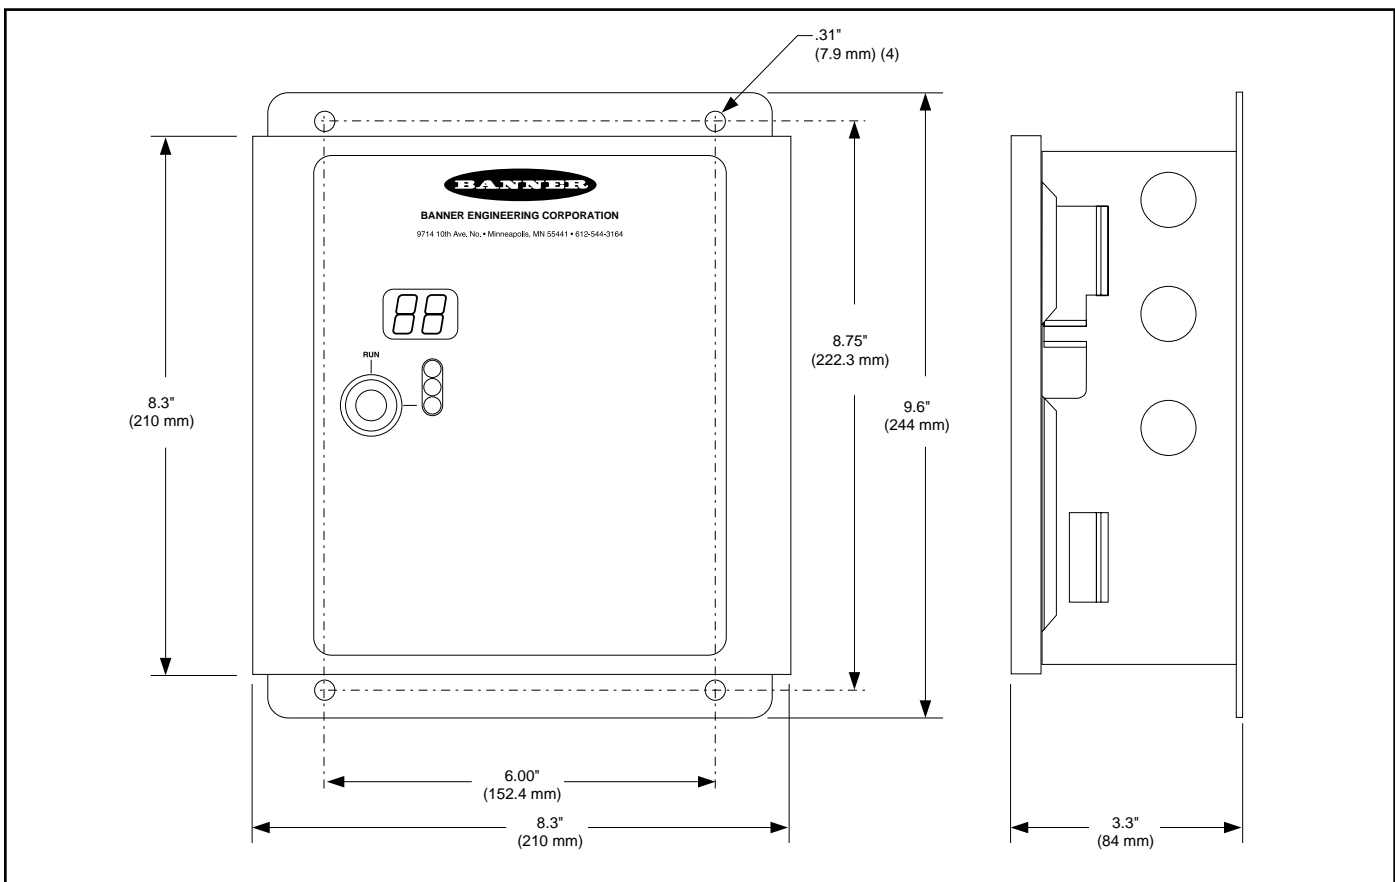
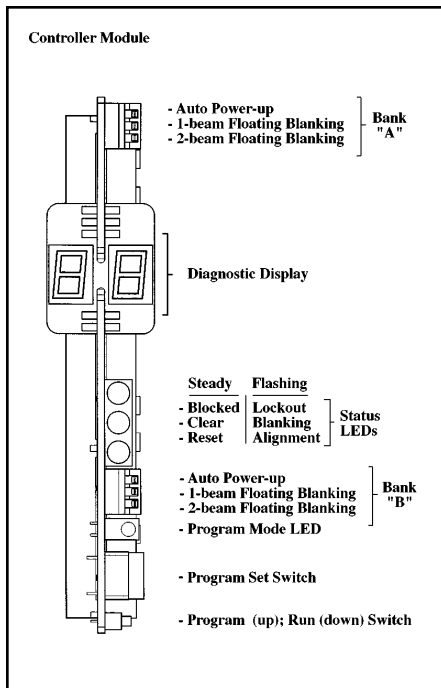

Figure 17. Control Box Mounting Hole Locations.
Figure 18. Controller Configuration Switches
Mount the MINI-SCREEN System control box in a convenient location that is free from heavy impulse force and high-amplitude vibration. **The control box *must* be mounted at a location which provides an unobstructed view of the defined area.** Mounting hole information is given in Figure 17 (below). The MINI-SCREEN Controller module must be configured *before* initial checkout and use. Controller configuration is done at the row of DIP switches along the edge of the controller module (Figure 18). The controller will automatically sense the length of the emitter and receiver, and set its response time accordingly.
Locate the floating blanking (FB) configuration switches in banks A and B (see Figure 18). Set the switches identically at banks A and B. The "on" position is to the left. Be aware of the difference in minimum object sensitivity, penetration factor, and required light screen separation distance between the settings (refer to sections 2.1 and 3.2.1). Floating blanking causes the MINI-SCREEN System to ignore objects of up to the size listed in the table, below. *NOTE: Both 1- and 2-beam floating blanking switches set to "ON" will cause a lockout.*
Locate the Auto Power-up (AP) configuration switch (see Figure 18) in banks A and B. If Auto Power-up is "on" (switches pushed to the left) when power is applied to the MINI-SCREEN System, the controller will automatically reset after conducting and passing an internal system checkout. If the switches are "off" (pushed to the right), this initial reset is manual (via the key reset switch on the front panel of the control box). Regardless of the setting of the Auto Power-up switches, a *key reset* is always necessary to recover from an *internal lockout* condition. To select Auto Power-up, remove the protective coating on both switches and push them to the left ("on") position. The switches must be set identically at banks A and B.
Fixed blanking (if used) is programmed during the initial checkout procedure using the "Program Switches" which are located at the bottom of the controller (as shown in Figure 18). See Section 3.5.3 for complete information.